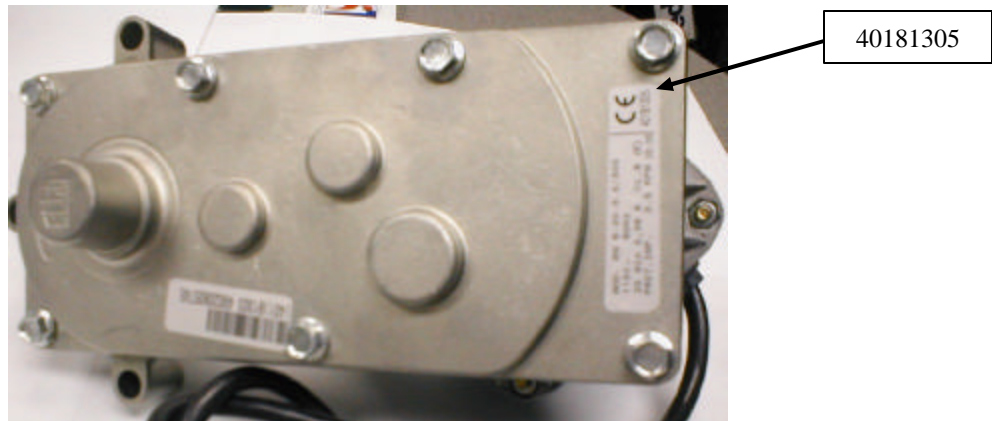

Figure 6
- a. Look for the number 40181305 below the CE symbol on the label on the bottom of the Gear Motor. See Figure 6.